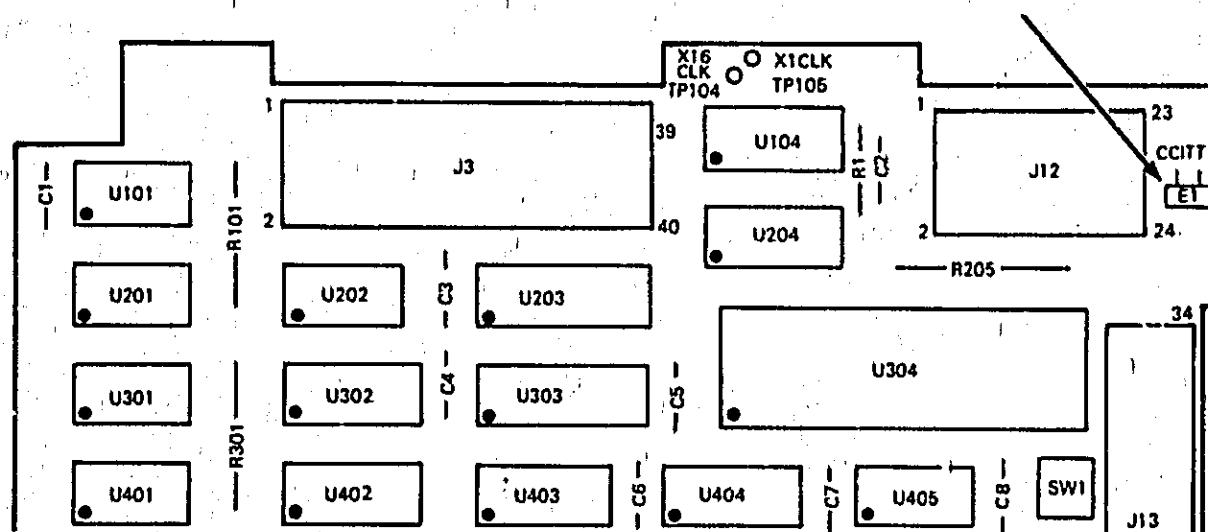

Figure A-1. E1 Jumper Location
2. Remove E1, the CCITT jumper on the A2, Control Board. The jumper location is shown in Figure A-1 below.